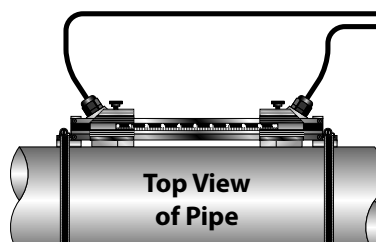

Figure 26: Mounting track installation
4. Place the first transducer in between the mounting rails near the zero point on the scale. Slide the clamp over the transducer. Adjust the clamp and transducer so the notch in the clamp aligns with the zero on the scale. See *Figure 26*.